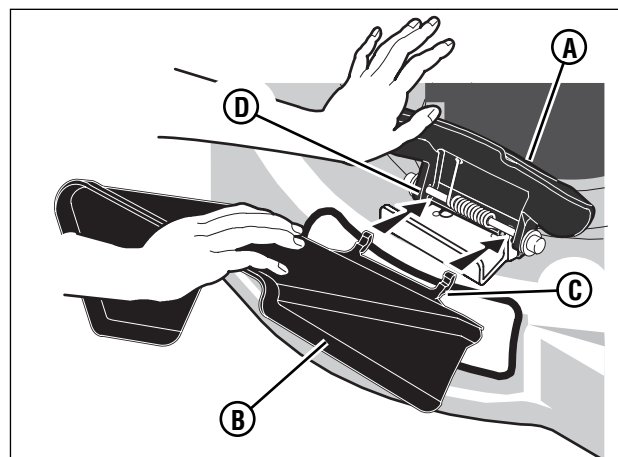

Figure 8: Installing the discharge deflector
1. Raise the recycling cover (**A**, **Figure 8**).